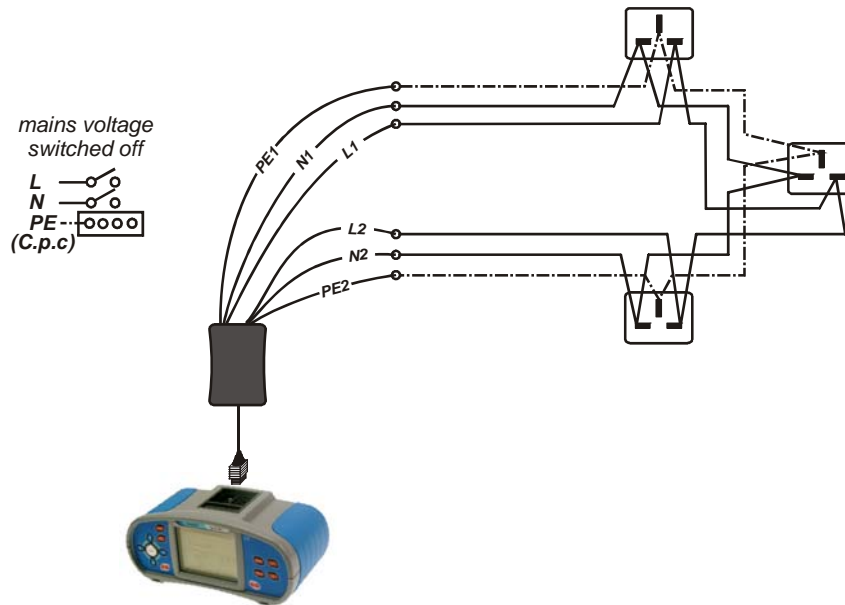

Figure 5.24: 1. step - measurement resistances r_1 , r_N and r_2
- ❑ **Connect** Ring adapter to the tested installation (see *figure 5.24*).